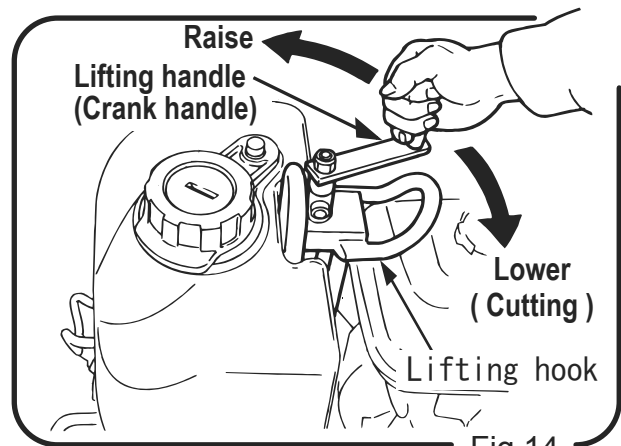

Fig.14
4. Turn the lifting handle slowly clockwise and when the blade comes into contact with cutting surface, check the feed gauge at rear right of water tank (looking from operator) before continuing to feed the blade slowly to desired depth. (Fig.14)